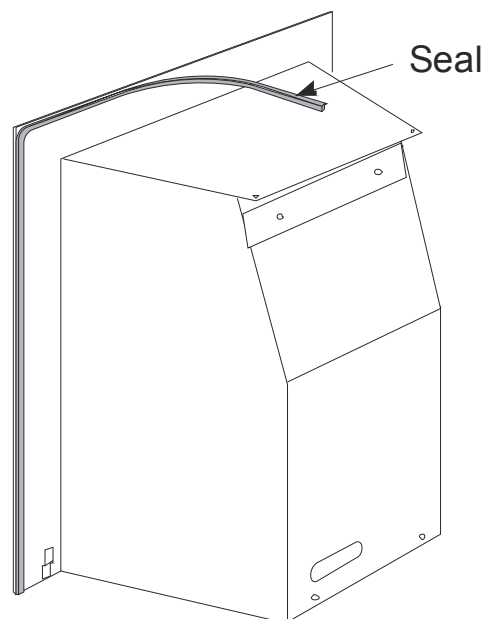

Figure 57
3. Apply the foam sealing strip all round the rear edge of the firebox flange by removing the protective backing paper (see **Figure 57**).